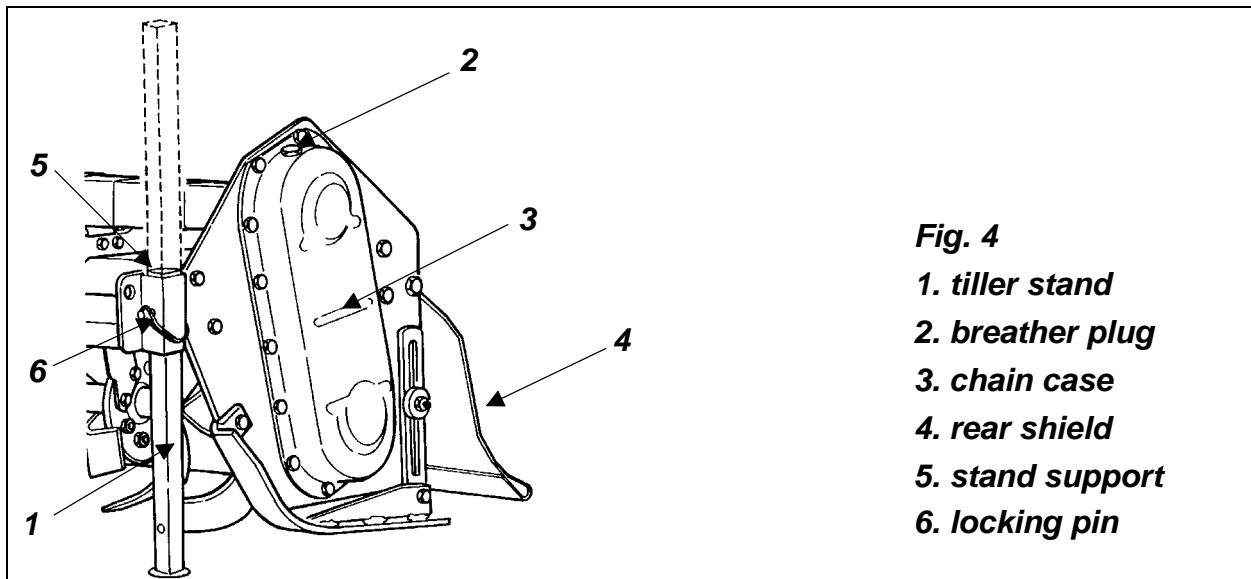
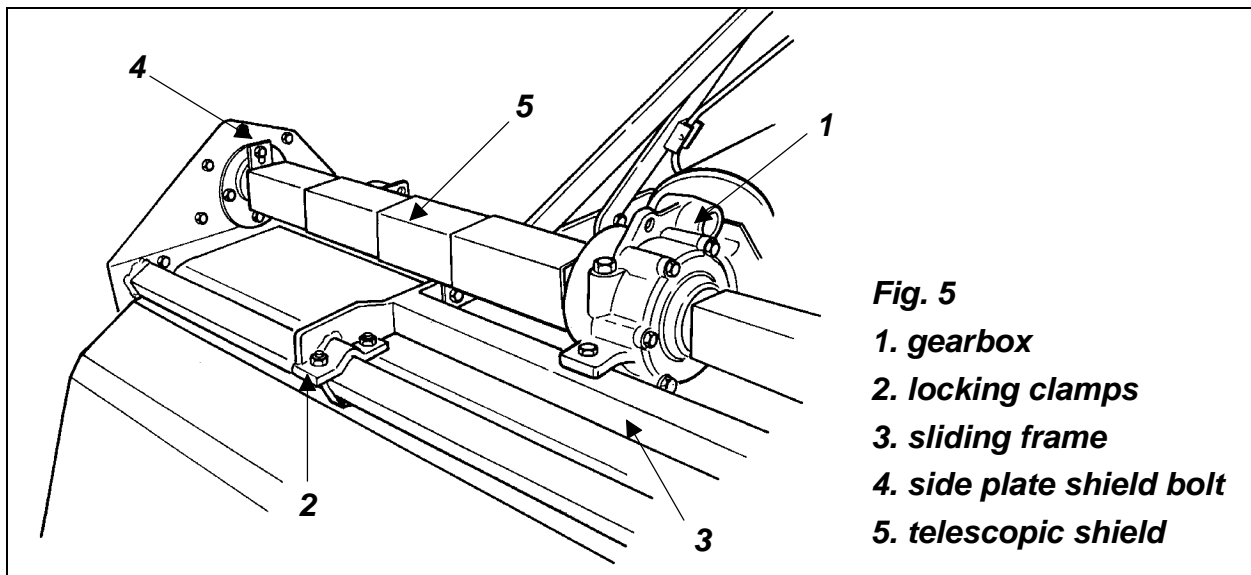

Fig. 4
Fig. 5
1. Lower the stand to support the tiller (**see fig. 4**). Secure it in place with the locking pin.
5. Ensure the breather plug (**see #2, fig. 4**) is screwed into the chain case (**see #3, fig. 4**). Check the gearbox oil level (**see #1, fig. 5**). It should be between $\frac{1}{2}$ and $\frac{2}{3}$ full. Use SAE 90 wt. gear oil.
7. After shifting the sliding frame into its desired position, block it with both the front and rear locking clamps U bolts (**see #2, fig. 5**)⁶. Grease driveline cross and bearing assemblies. Grease sliding sections of shaft.
8. The hexagonal drive shaft is protected by a telescopic sliding shield (**see #5, fig. 5**). To attach this shield do the following: bolt the upright tab to the chain case side plate (**see #4, fig. 5**); open the telescopic shield and bolt the outer cover to the retaining plate on the sliding frame (**see #1, fig. 6**); ensure the telescopic shielding when open does not touch the hexagonal shaft and is parallel as possible; slide the frame back two or three times from completely open to completely closed to be sure it opens and closes without difficulty. Note: Lightly greasing the hexagonal drive shaft helps to side-shift the tiller.